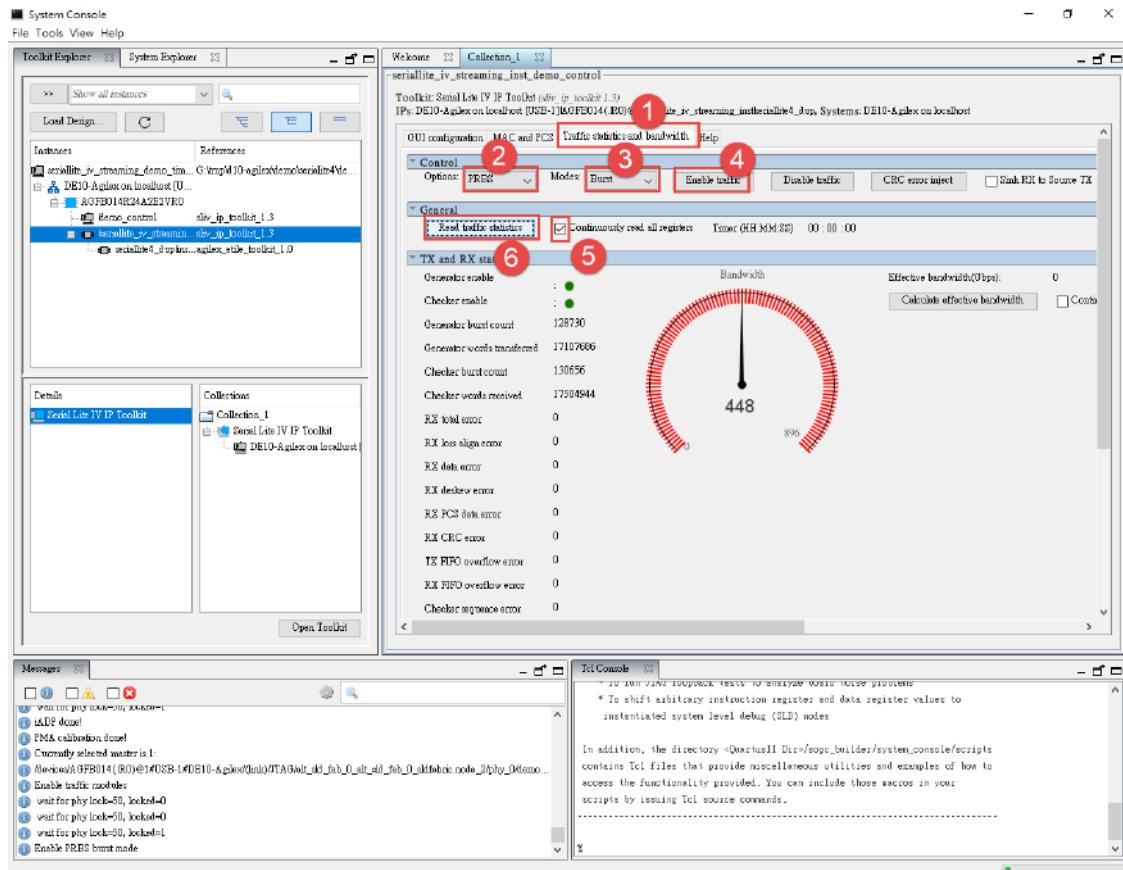

Figure 9-24 Traffic statistics and bandwidth tab
9. Please refer to the **Figure 9-24**, choose **Traffic statistics and bandwidth** tab and follow steps 1~6 to implement various CSR for the Demo Management module to configure the traffic generator and checker. **Figure 9-25** shows the real-time bandwidth calculation measurement result based on the traffic modules instantiated in the example design.